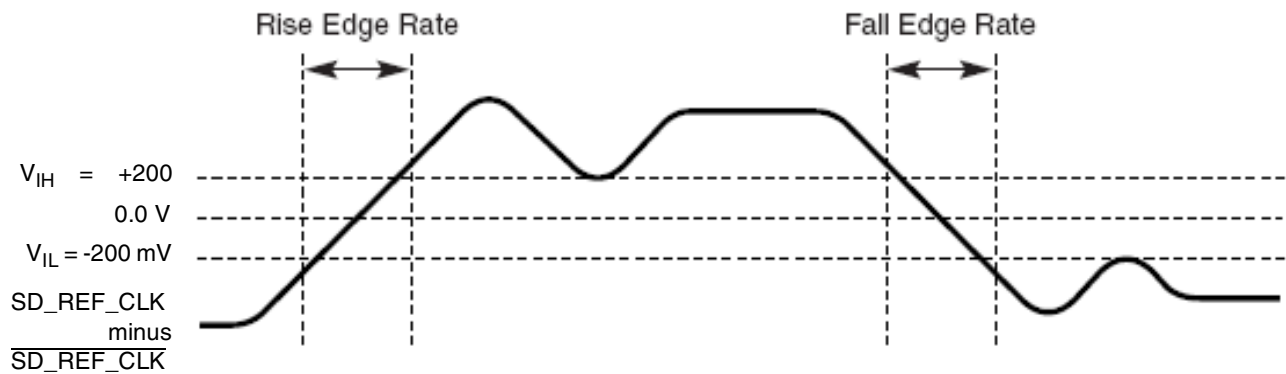

Figure 24. Differential Measurement Points for Rise and Fall Time
The differential waveform is constructed by subtracting the inverting signal ($\overline{TX_n}$, for example) from the non-inverting signal (TX_n , for example) within a differential pair. There is only one signal trace curve in a differential waveform. The voltage represented in the differential waveform is not referenced to ground. Refer to Figure 24 as an example for differential waveform.
3. Measured from -200 mV to +200 mV on the differential waveform (derived from SD_REF_CLK minus $\overline{\text{SD_REF_CLK}}$). The signal must be monotonic through the measurement region for rise and fall time. The 400 mV measurement window is centered on the differential zero crossing (Figure 24).